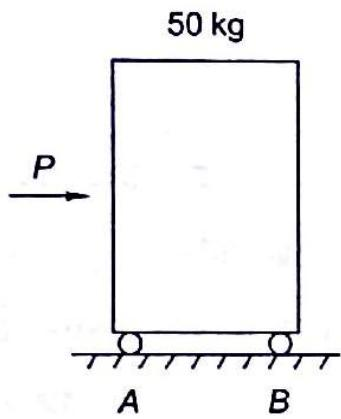

Fig. 15.22
15.2 A cabinet of mass 50 kg is mounted on castors, but castors are locked and slide along the floor with coefficient of friction between castors and floor equal to 0.3. If $P = 350 \text{ N}$ and cabinet is not to tip about A or B castors, what is acceleration of cabinet (Fig. 15.22)?